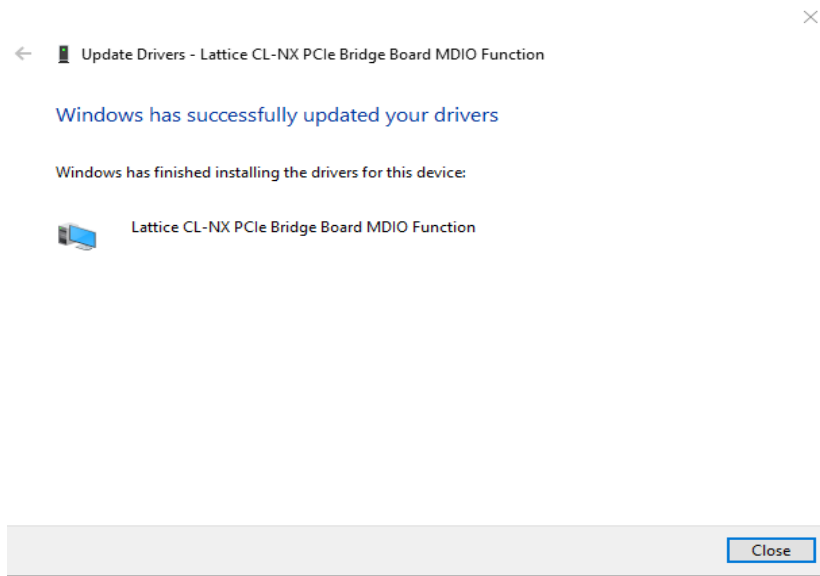
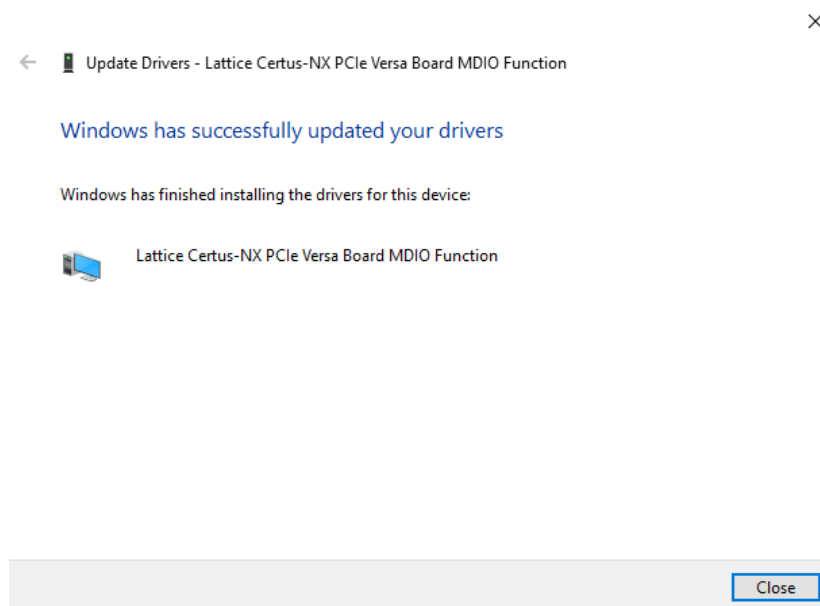
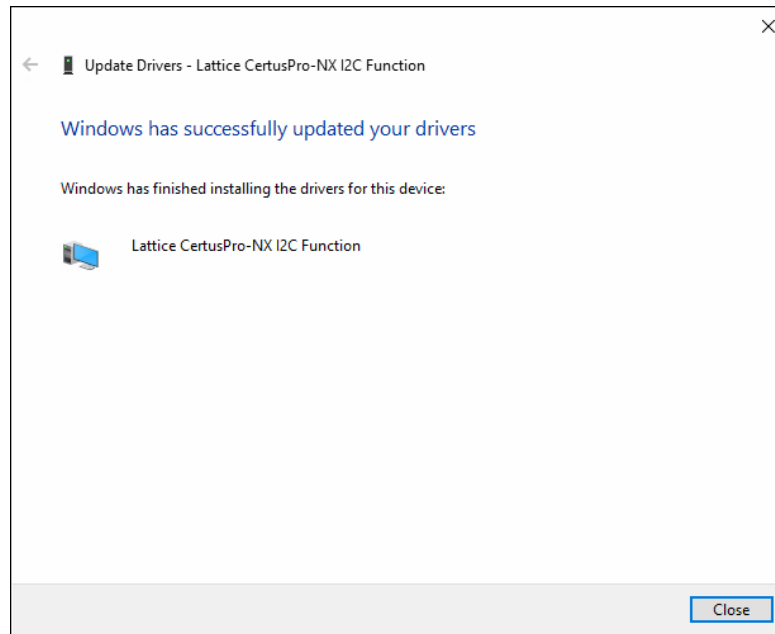

Figure 5.50. MDIO Driver Installation Status Message for the CrossLink-NX Board
Figure 5.51. MDIO Driver Installation Status Message for the Certus-NX Board
Figure 5.52. I²C Driver Installation Status Message for the CertusPro-NX Board
8. If the driver is installed successfully, a message is displayed as shown in Figure 5.50 for the CrossLink-NX board, Figure 5.51 for the Certus-NX board, and Figure 5.52 for the CertusPro-NX board.